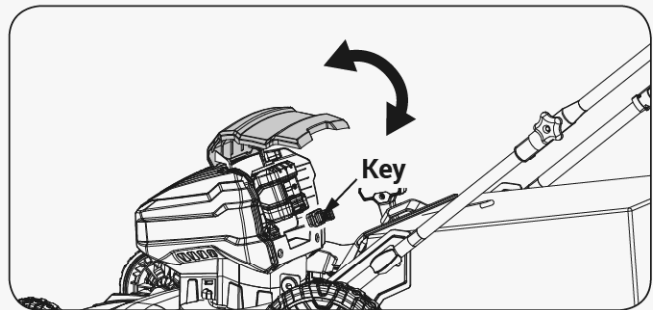

Figure 9
1. Hold and lift up the battery door. (See **Figure 9**)
3. Insert the switch key into the slot beside the battery port. (See **Figure 9**)